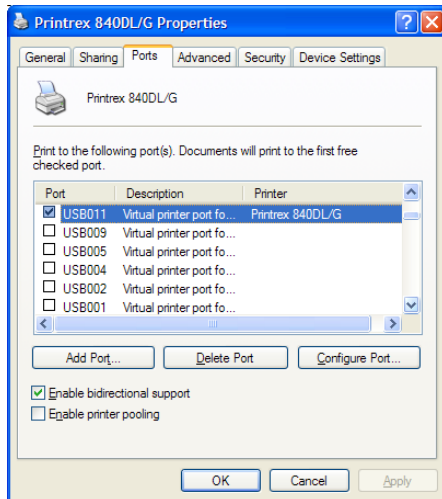

Figure C-3: Select top USBxxx port
4. In the queue Printer menu, select and open Properties. On the Ports tab, scroll down to the USB port selections (Figure C-3). Check the topmost (highest number) USBxxx port, and click Apply.